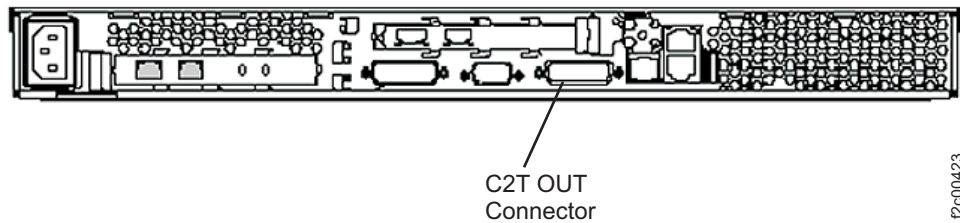

Figure 73. Rear view of X335 management console server
8. If you are installing an x335 server, route and then plug the C2T cable from the keyboard and monitor into the C2T OUT connector on the rear of the x-server. See Figure 73 for locations.